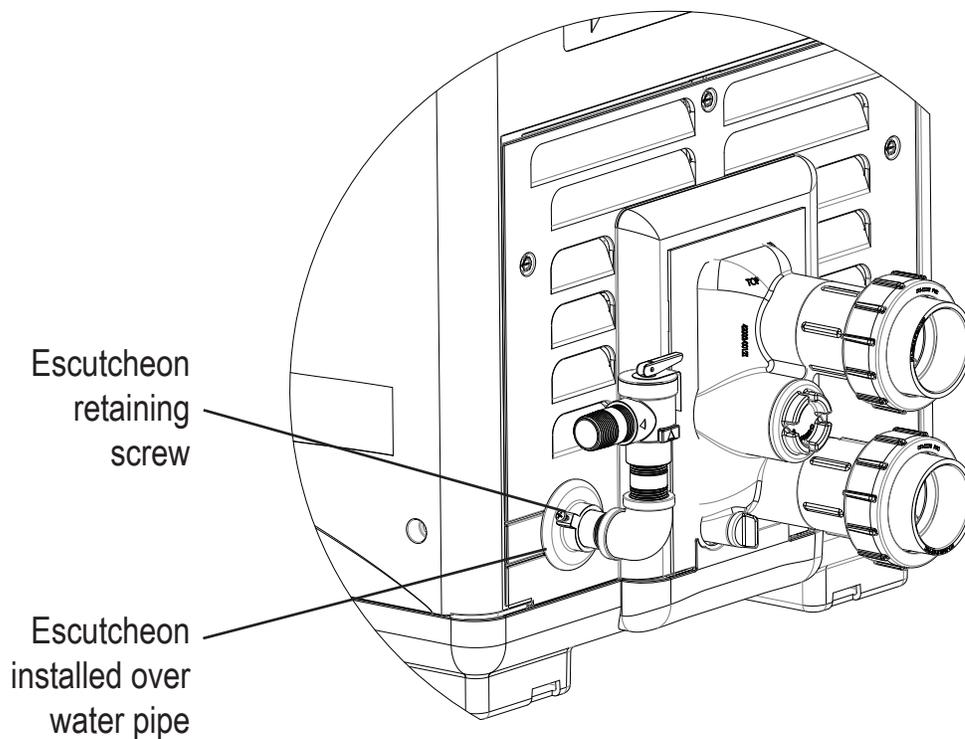

Figure 44. Water Pipe with Escutcheon Installed.
1. Place the water pipe escutcheon over the water pipe, **see Figure 44.**